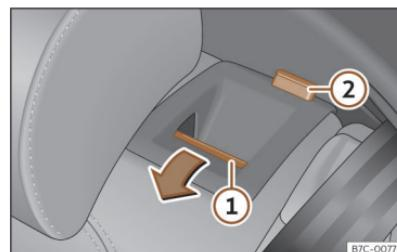

Fig. 87 Rear seat: folding down the backrest.
- Press the unlock button >>> **Fig. 87 ①** forwards and at the same time fold the backrest down. The rear seat backrest is not engaged when the red marking of the button **②** is visible.